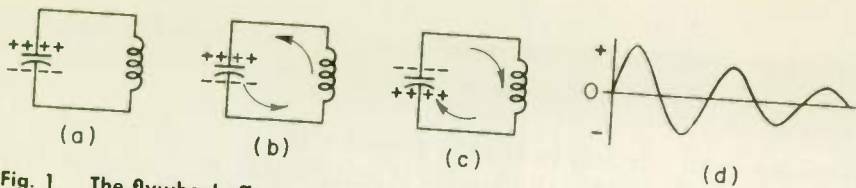

Fig. 1 The flywheel effect.
- 1 THE FLYWHEEL EFFECT . . . When a capacitor and an inductor are arranged as shown in Fig. 1(a), the combination becomes the simplest form of electrical oscillator.
If the capacitor is charged as shown in Fig. 1(a), energy is stored in its electric field. Upon removal of the charging source, the capacitor
immediately starts to discharge through the inductance, and electrons flow in the direction indicated by the arrows in Fig. 1(b). During discharge, current passes through the inductance and energy is stored in its electromagnetic field. The potential across the capacitor gradually drops to 0 volts, at which point the capacitor has completely discharged its energy across the coil.
As soon as the capacitor has recharged, and energy is once again stored in its electric field, current flow through the circuit is as shown in Fig. 1(c). The capacitor again discharges its energy across the inductance, which in turn recharges the capacitor to the polarity shown in Fig. 1(a). Then the cycle is started over again, as shown in Fig. 1(b).
Because such friction is always present, the pendulum eventually slows down. Similarly, the energy circulating in the resonant circuit of Fig. 1 eventually dies down.
If these losses were not made up during each cycle, the parallel resonant circuit would produce a waveform of gradually declining amplitude, as shown in Fig. 1(d). A waveform of this type is known as a *damped wave*.
3 **FREQUENCY . . .** The frequency of oscillation of the simple oscillator shown in Fig. 1 depends on the values of the inductance and the capacitance. If a larger value of capacitance is used, it takes longer for the capacitor to charge fully, and also longer to discharge. The frequency of the sine wave is therefore reduced. The frequency may also be lowered by increasing the value of inductance.